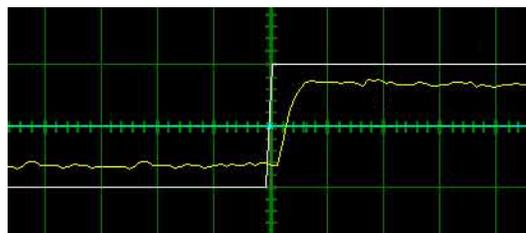

Figure 4 Current Loop Tuning Knee
- Begin by increasing the Torque Loop Kp until a knee begins to form in the Current Measured response as shown in Figure 4. The motor will begin to make an audible noise and vibrate but will not move.